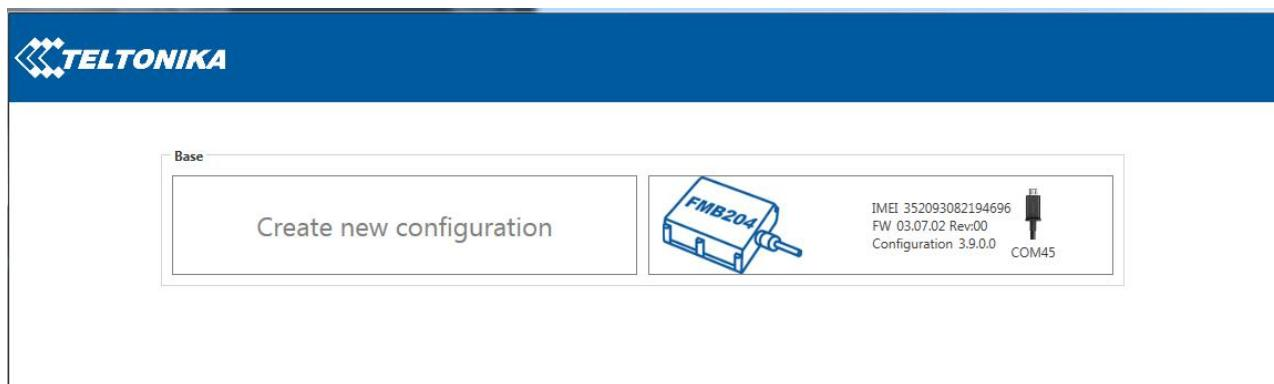

Figure 37 FMB2YX configurator connected devices window
- Launch **FMB Configurator** and connect to device as shown in **Figure 37** below.
- After successful connection to device wait few moments while device load current configuration, then go to blue-tooth section that visible at **Figure 37**.